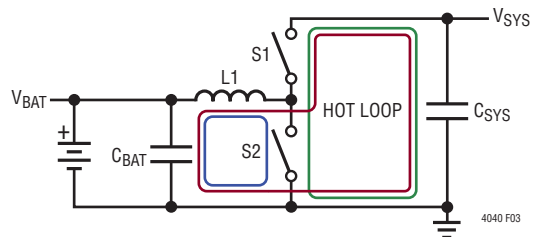

Figure 3. Hot-Loop Illustration for the LTC4040 Switching Converter
1. Even though the converter can operate in both step-down (buck) and step-up (boost) mode, there is only one hot-loop containing high-frequency switching currents. The simplified diagram in Figure 3 can be used to explain the hot-loop in the LTC4040 switching converter. Current follows the blue loop when switch S2 (NMOS) is closed and the red loop when switch S1 (PMOS) is closed. So it is evident that the current in the  $C_{BAT}$  capacitor is continuous whereas the  $C_{SYS}$  current is discontinuous forming a hot loop with  $V_{SYS}$  pins and GND as indicated by the green loop. Since the amount of EMI is directly proportional to the area of this loop, the  $V_{SYS}$  capacitor, prioritized over all else, should be placed as close to the  $V_{SYS}$  pins as possible and the ground side of the capacitor should return to the ground plane through an array of vias.